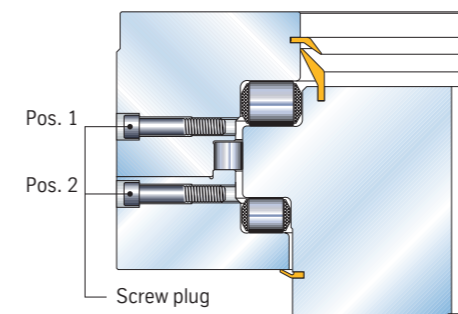

Figure 41: Three-row roller bearing slewing ring with grease sampling ports
Remove the screw plug (M16 EN ISO 4762) selected for taking the sample: item 1 and if necessary item 2 opposite (figures 41 and 42).
Add the necessary information (see the grease sampling set in figure 41 on page 236) to the top of the sample box.